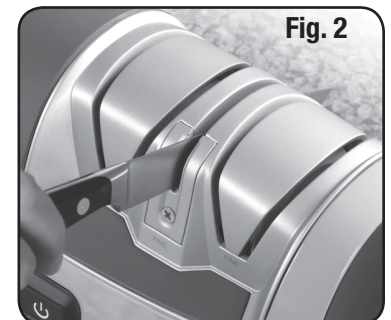

Fig. 2
2. Starting at the heel of the blade, pull the blade through the crossed ceramic stones while applying light, downward pressure (never back and forth). Lift at the end of the stroke to sharpen the tip of your blade (**Fig. 2**).